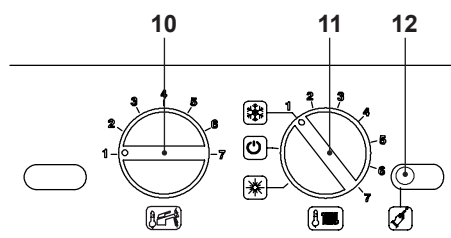

Figure 10.6
- Before powering the boiler, turn knob 11 as shown in the Figure 10.6.
- To set the Antilegionella mode function, access programming and hold down the reset button 12 in Figure 10.6 for 15 seconds until parameter **P01** appears on the LCD display; the following appears on the LCD display (the sequence **P01** alternates with -- -- --).
- Press the reset button 12 in Figure 10.6 to scroll the various parameters until reaching parameter **P17**, which is used to set the Antilegionella function; the following will appear on the LCD display (the sequence **P17** alternates with **01**).